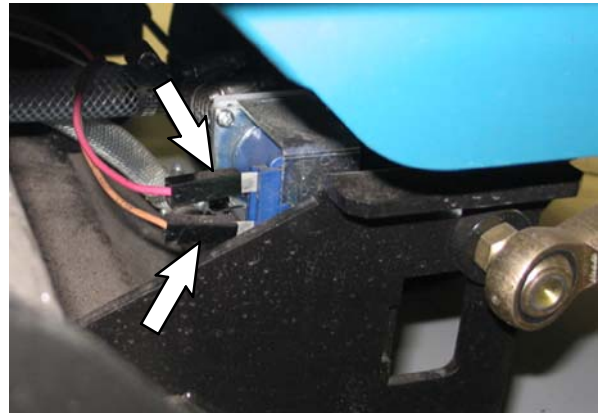
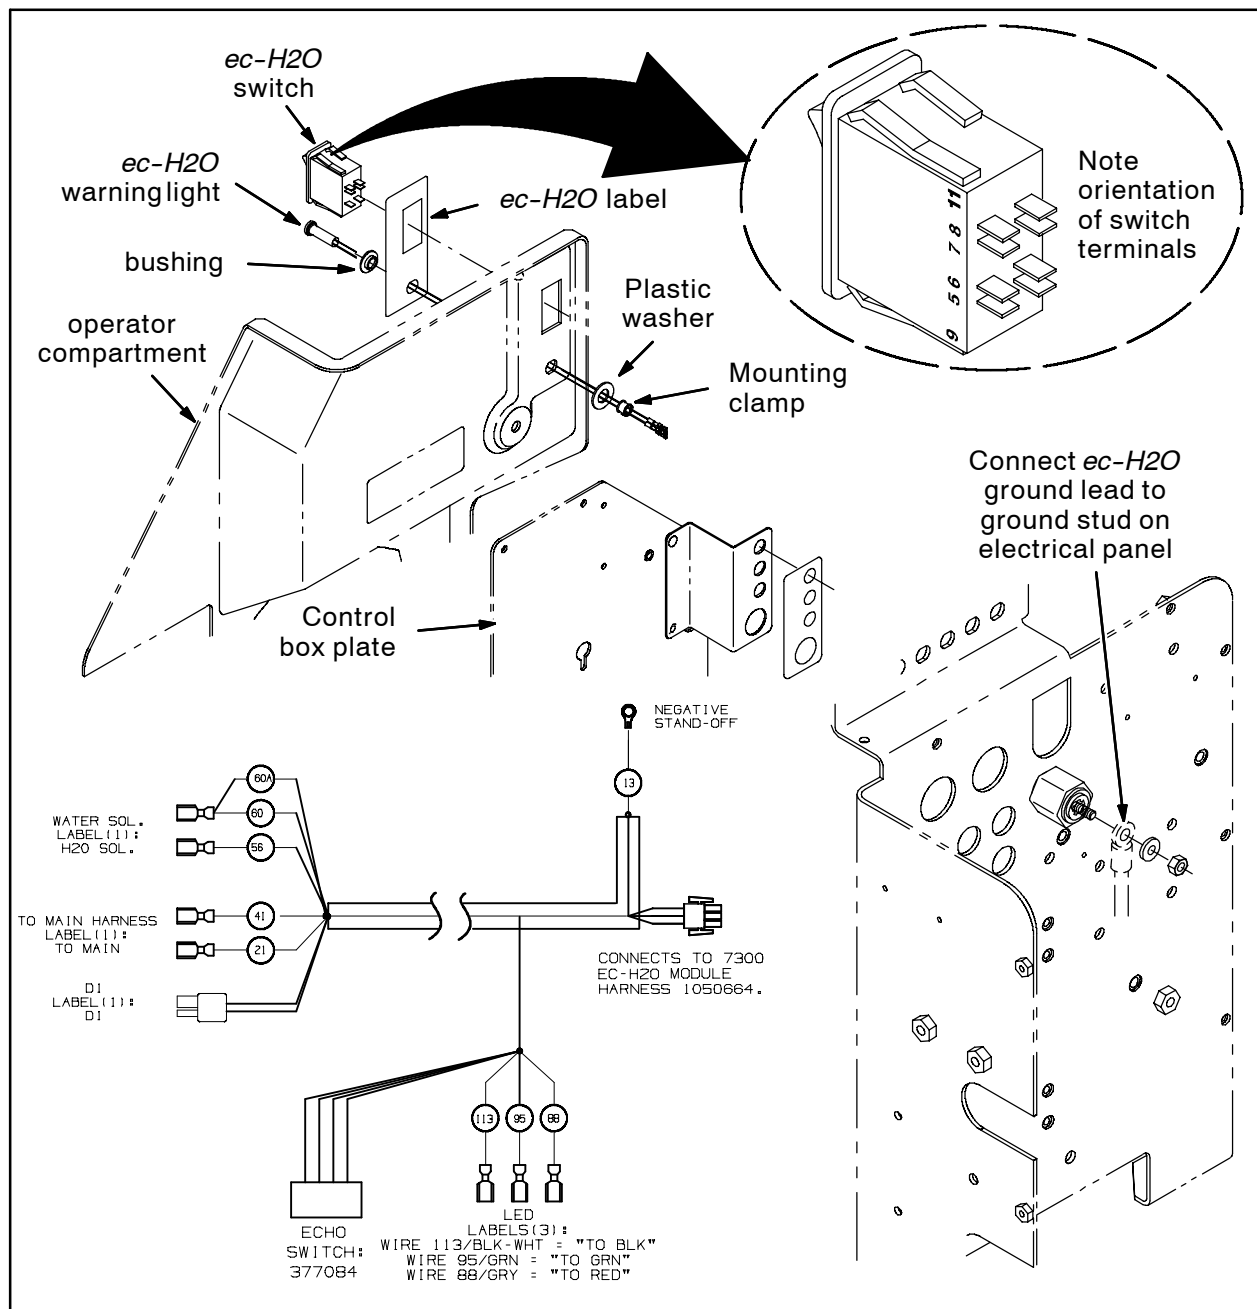

FIG. 8
FIG. 12
11. Disconnect the main wire harness from the water valve attached to the scrub head. Refer to Fig. 8.
12. Connect the two wires previously attached to the water valve to the *ec-H2O* harness. Refer to Fig. 8 and Fig. 12.
13. Connect the *ec-H2O* harness to the water valve. Refer to Fig. 12.
16. Install the *ec-H2O* label over the FaST label on the operator compartment. Refer to Fig. 10, Fig. 11, and Fig. 12.
17. Install the *ec-H2O* switch into the operator compartment. Refer to Fig. 11 and Fig. 12.
18. Remove the mounting clamp from the *ec-H2O* warning light, slide the bushing onto the light, install the light into the operator compartment, and slide the plastic washer onto the light. Reinstall the mounting clamp to secure the light into place. Refer to Fig. 11 and Fig. 12.
20. Connect the *ec-H2O* harness to the light. Refer to Fig. 12.
21. Connect the *ec-H2O* harness to the switch. Refer to Fig. 12.
22. Connect the ground lead of the *ec-H2O* harness onto the ground stud in the control box. Refer to Fig. 12.